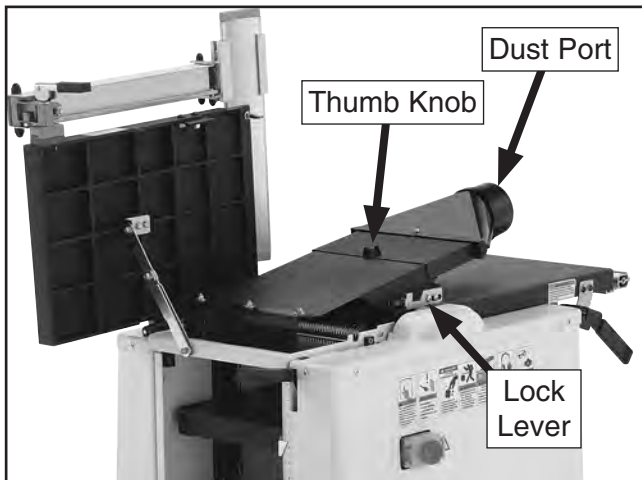

Figure 27. Dust chute secured.
7. Swing the dust chute assembly clockwise over the cutterhead, then push it down onto the infeed table until you hear a "click"—this indicates that the lock lever (**Figure 27**) has secured the infeed table for the planer to operate.
8. Install the dust port onto the dust chute with the thumb knob, as shown in **Figure 27**, then install the dust hose with a hose clamp.